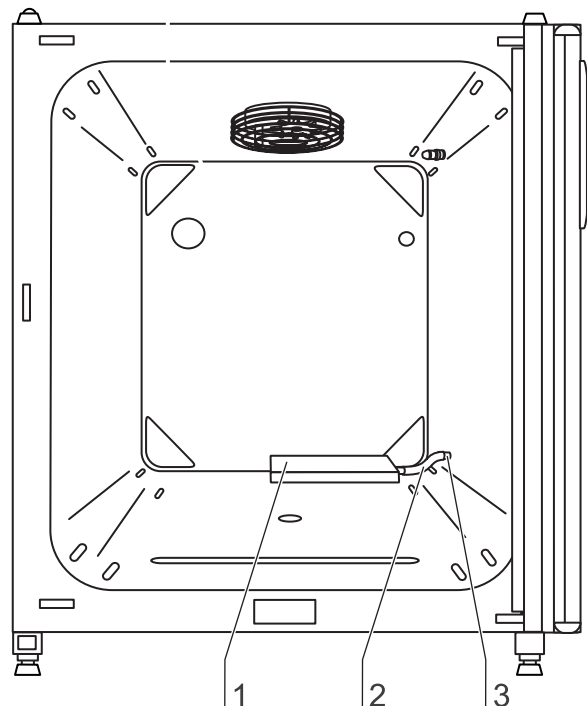

Fig. 19: Installing gas humidification
**Fig. 19:** The gas humidification [1] is installed to the water tray parallel to the rear panel of the device. The position to the right side wall is predetermined by the hose length.